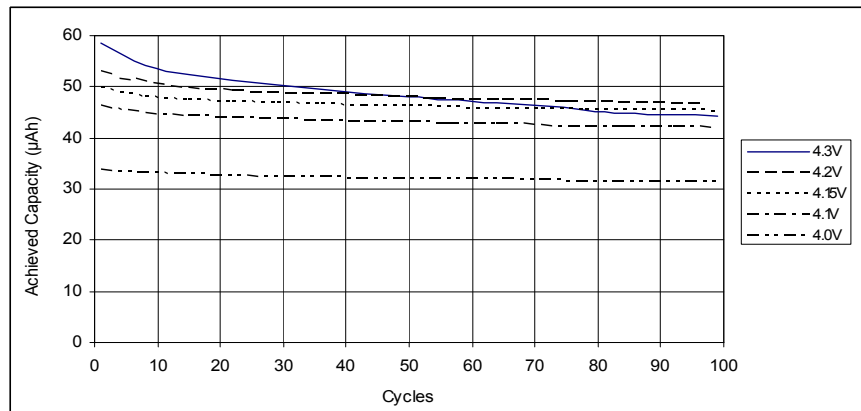

Figure 13: Effect of Charging Voltage on Battery Charge and Cycle Fade
- The charging voltage and charge time determine the amount of charge delivered to, and accessible from, the battery. A higher charging voltage will deliver more charge, but will also result in greater long-term capacity fade as a function of charge/discharge cycling. Figure 13 shows trade-offs between charging voltage, charge capacity and cycle fade.
- The batteries may be charged at a constant current (CC) followed by a constant voltage (CV). During the CC phase, the current may be set to any value that results in an acceptable charging time and does not cause the battery voltage to exceed 4.3V.